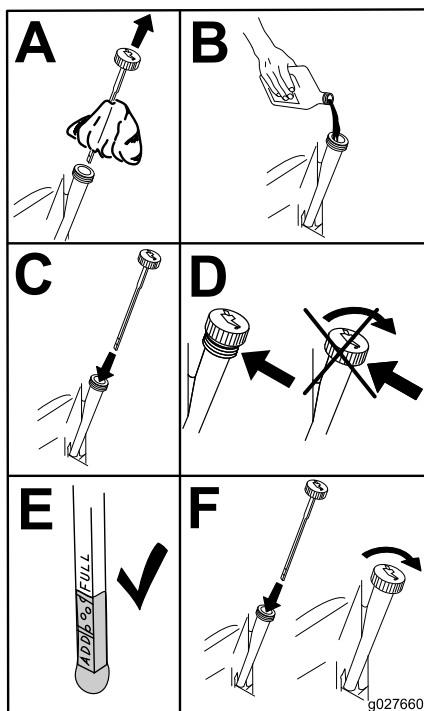

Figure 44
6. Slowly pour approximately 80% of the specified oil into the filler tube and slowly add the additional oil to bring it to the Full mark (Figure 44).